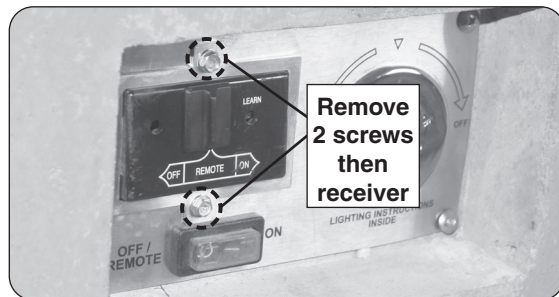

Fig. 27-1 Remove remote receiver assembly
1. Use a 1/4" nut driver to unfasten the remote receiver bracket assembly found on the control panel (2 screws). Then carefully remove the assembly. See Fig. 27-1.